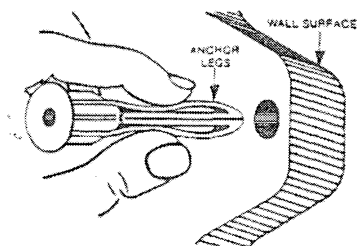

FIGURE 3
01.21 Press the anchoring legs of a toggler together and insert them into one of the anchoring holes, as shown in Figure 3.